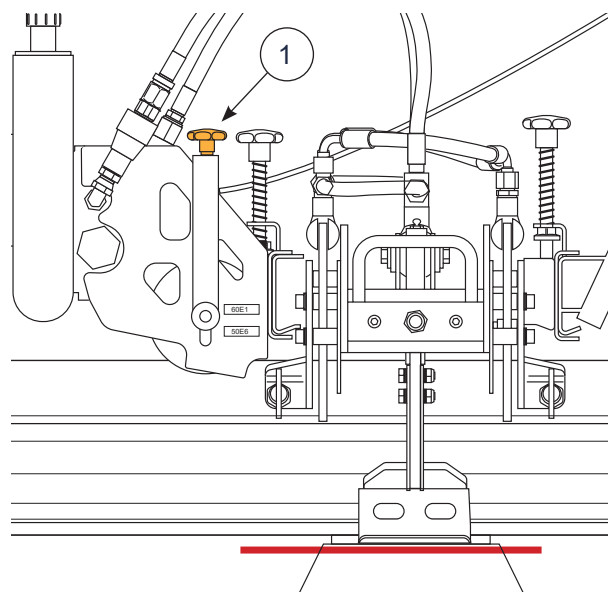
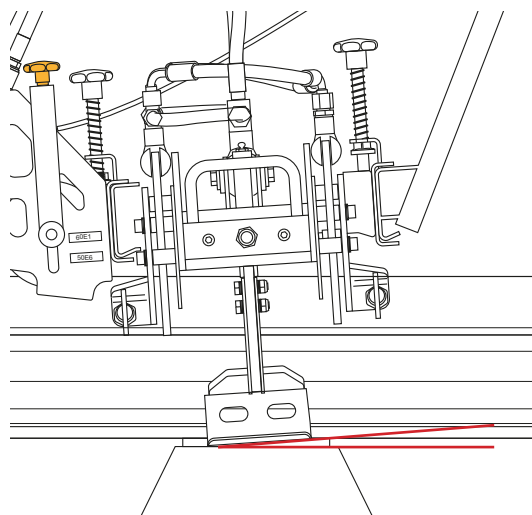

Fig 30. Correct adjustment
Fig 31. Too low
Turn the knob (1), Fig 30 to adjust to correct height.
When correctly adjusted, the work head is in horizontal position according to Fig 30
If the workhead is too low (Fig 31), turn the adjustment knob (1), Fig 30 clockwise, to lift it to horizontal position according to "Fig 30. Correct adjustment".
If the workhead is too high (Fig 32), turn the adjustment knob (1), Fig 30 anti-clockwise, to lower it to horizontal position according to "Fig 30. Correct adjustment".